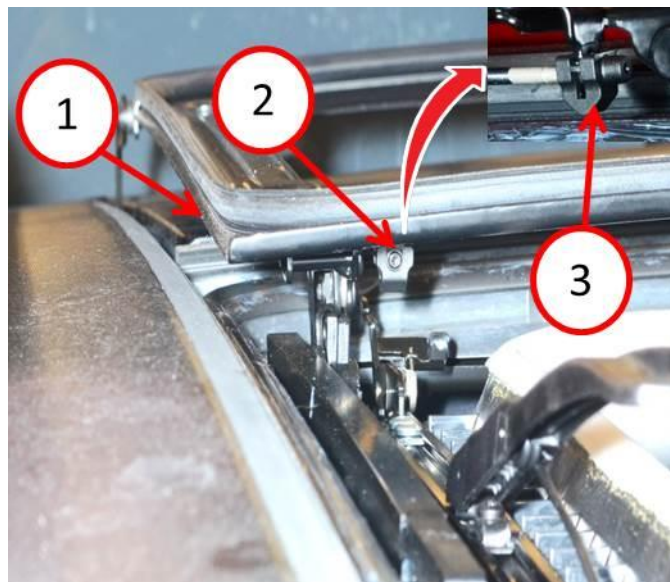

Fig. 13 Deflector Screw And Pad Stop
52. Remove the Torx screw from the pad stop (Fig. 13).
53. Remove and discard the pad stop from roof panel frame (Fig. 13).
54. Install new pad stop (P/N 68324707AA) on roof the panel frame (Fig. 13).
55. Install the Torx screw on wind deflector slider (Fig. 13). Tighten Torx screw to 1 N·m (8.8 in. lbs.).